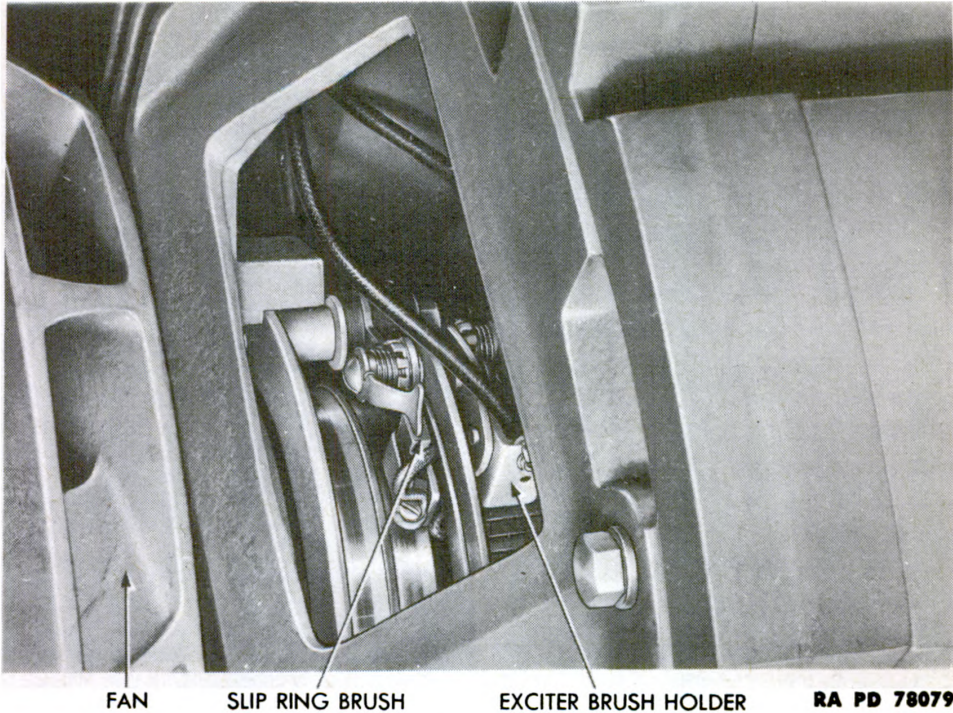

Figure 71 – Generator Brushes
a. Brush Inspection. At least once every 3 months, remove brush covers (subpar. e, below) and visually inspect brushes (fig. 71). If gummy or stuck in their holders, remove and clean brushes. Clean all dirt from the brush holders. Check tightness of all pigtail connections.
e. Brush Removal (fig. 71).
- (1) Disconnect wire attached to trailer brake receptacle.
- (2) Unscrew nuts and screws securing generator panel to frame and remove panel.
- (3) Remove cap screws securing fan guard to generator frame. Separate fan guard by removing the attaching cap screws and nuts and lift the halves of the guard from the unit.
- (4) Using socket-head screw wrench, loosen socket-head screws and lift out brush covers.
- (5) Remove screws securing brush pigtail connections to brush holders and lift out brushes.